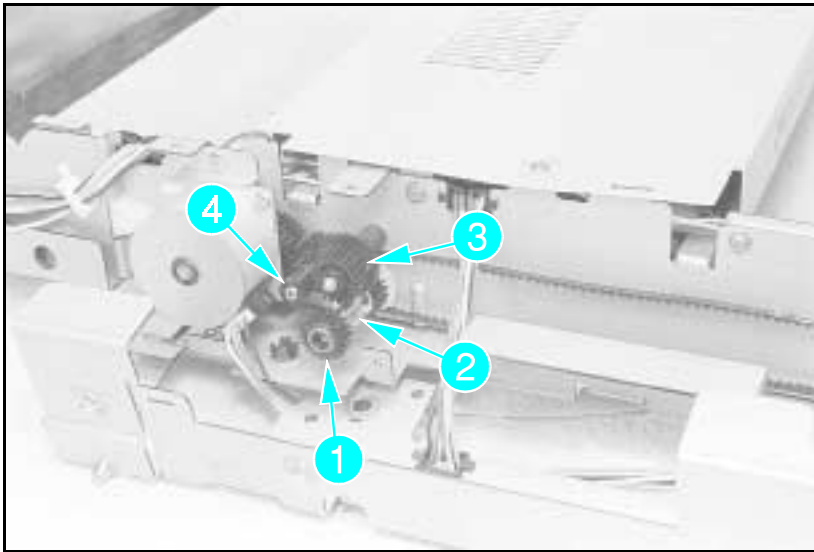

Figure A-21 Holding Tray Gears and Belt
6 Remove the (1) one-way gear shown in Figure A-21, callout 1.
7 Remove the (1) E-clip from behind the first gear (see Figure A-21, callout 2).
8 Remove the (2) gears shown in Figure A-21, callouts 3 and 4.